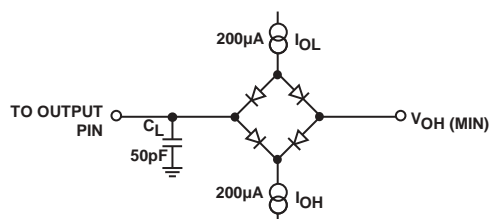

Figure 1. Load Circuit for Digital Output Timing Specifications
Data Write Mode (Figure 1)
- ³See Figure 1.